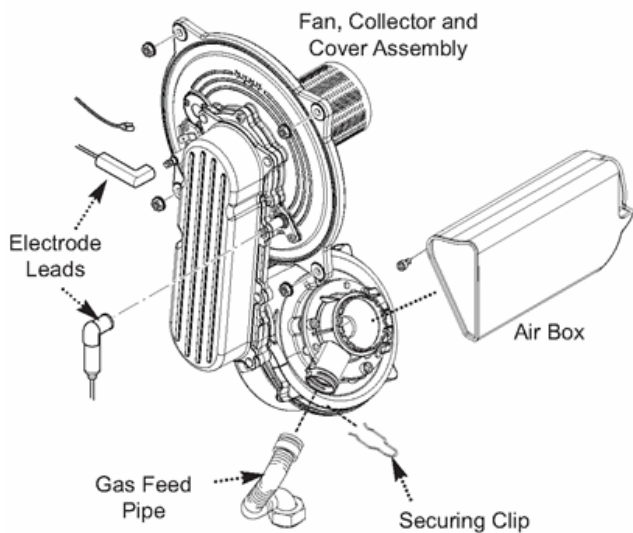

Fig. 46
6. Note their position and disconnect the electrode leads and the fan electrical plugs (Fig. 46).
8. Carefully draw the fan, collector and cover assembly forward (Fig. 46).